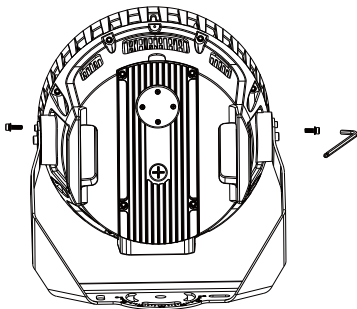

Figure 2
- 2:Fix it with M6 screws after adjusting to the required the angle (Figure 2).